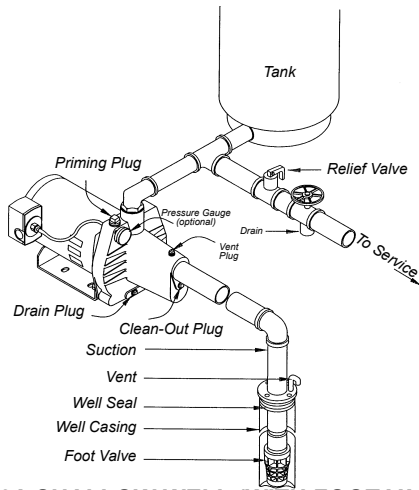

FIG. 2A SHALLOW WELL (WITH FOOT VALVE)
- d) **Service Line:** The service line should be connected as shown in Fig. 2a, b, c or d. The size of the service line required is governed entirely by the amount of water needed and the length of the pipe. The pipe selected should be large enough so that the friction loss (determined from Table 2, Friction Loss Chart) will never exceed 20 ft. (6m) head.